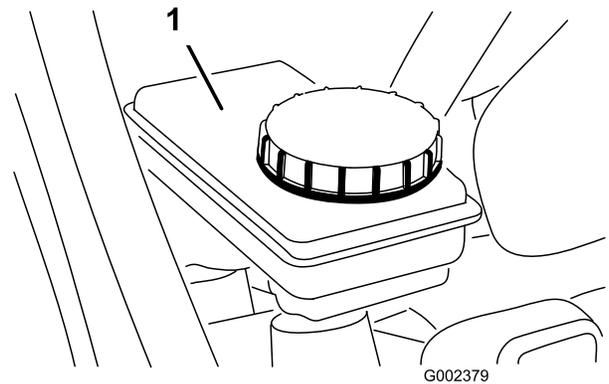

Figure 17
2. The fluid level should be up to the Full line on the reservoir (Figure 17).